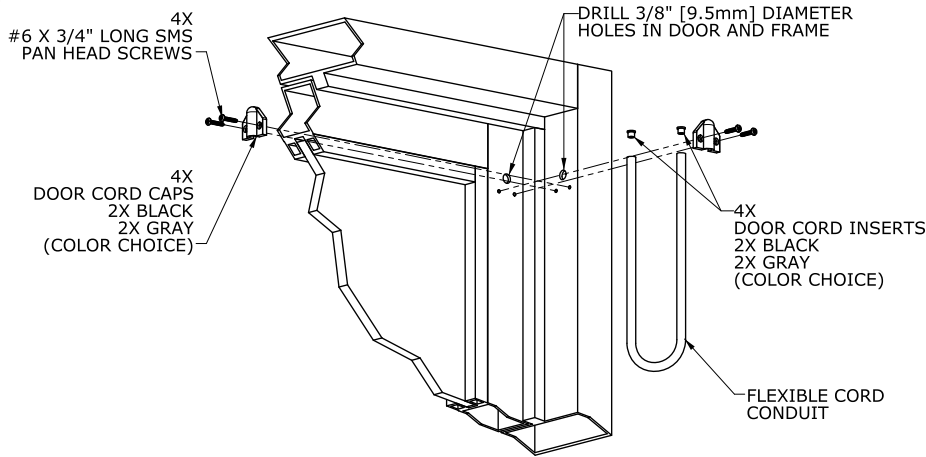

Figure 8
- a. Drill a 3/8” [9.5mm] diameter hole in the door and frame (hinge side) as shown in **Figure 8**.
- b. Insert one (1) door cord insert into each end of the flexible cord conduit.
- d. Position the door cord caps to completely cover each 3/8” [9.5mm] diameter hole and use the cap mounting holes as a template to mark and then drill two (2) 1/8” [3.2mm] pilot holes for mounting.
- e. Insert each end of the (spiral) conduit into the recess of each of the cord caps and mount each cap to the door and frame using a Phillips screwdriver and two (2) #6 X 3/4" long pan head screws provided.